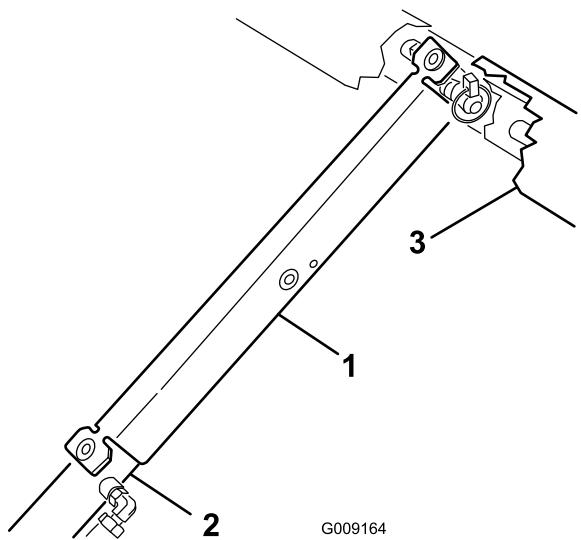

Figure 89
8. Push the bed support onto the cylinder rod, making sure that the support end tabs rest on the end of cylinder barrel and on the rod end of the lift cylinder (Figure 89).